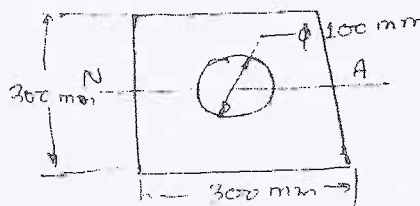

Fig. Q6 (c)
c. A wooden section $300 \text{ mm} \times 300 \text{ mm}$ has a central bore of 100 mm diameter as shown in Fig. Q6 (c). If it is used as a beam to resist a shear force of 10 kN, find the shearing stress at crown of the bore and at neutral axis. (08 Marks)